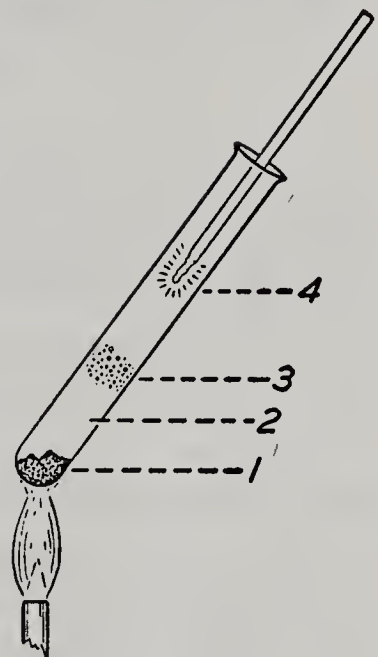

Fig. 20. Heating mercuric oxide.
1. Place about as much mercuric oxide as would lie on a ten cent piece in a small Pyrex test-tube (TECH. 8). Hold the test-tube as in Fig. 20 and heat gently, keeping the end containing the solid in the flame. After heating for a very short time, remove the test-tube from the flame and allow it to cool.
2. Continue to heat the mercuric oxide, increasing the temperature until it is being strongly heated. Lower a glowing splint of wood slowly into the test-tube until it almost touches the material in the bottom of the tube, and just as slowly withdraw it. For a convenient reference the accompanying diagram (Fig. 20) is numbered.
Copy Fig. 20 in your notebook.
3. When mercuric oxide is heated, **decomposition** takes place. When mercuric oxide is formed the action is called **combination**. Compare the temperatures at 1 and 3 (Fig. 20) and draw a conclusion as to which is the lower temperature, the temperature of decomposition or the temperature of combination.